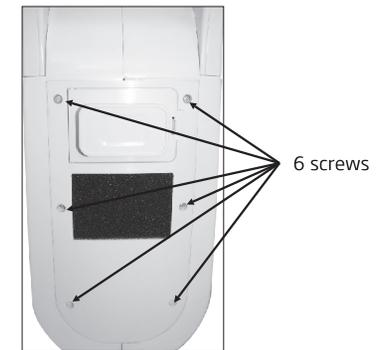

Figure 16
- ▶ Unscrew 6 screws in the back cover and take off the back cover. (Figure 16)